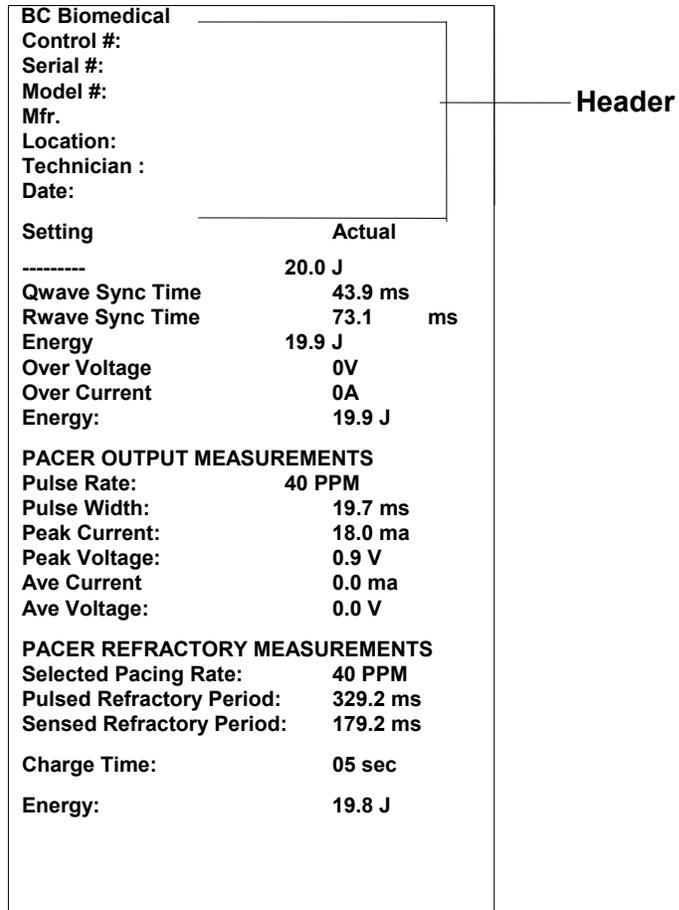

Figure 3.1 Manual Output with Header
- 3) At the Pacer Menu, press the soft key corresponding to **HDR**. The header will be forwarded via the serial port to the target device (computer or serial printer). An example of the header is shown in **Figure 3.1**.
- An example of a standard printout (manual operation) with a header is shown in **Figure 3.1**. During manual operation, results are output to the printer (or computer) immediately after each test is performed.